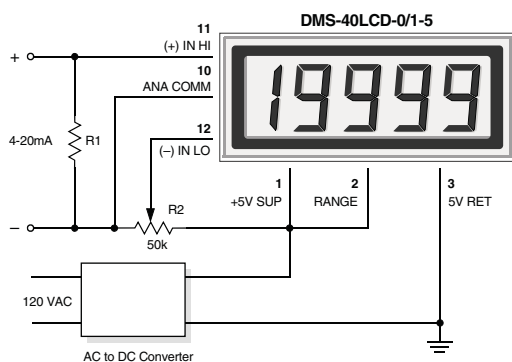

**Figure 7. 4-to-20mA Current Loop Operation
5. Process Control (4-to-20mA) Measurements: In many common process-control applications, a 4-to-20mA current loop is used to transmit information. Because DMS-40LCD meters have such high input impedance, a simple shunt resistor across the meter's input can be used to convert the loop current to a voltage. See Figure 7. The value of the shunt resistor is a function of the scaling requirements of the particular application and can be calculated using the following equation:
To calibrate the circuit of Figure 7, perform the following: